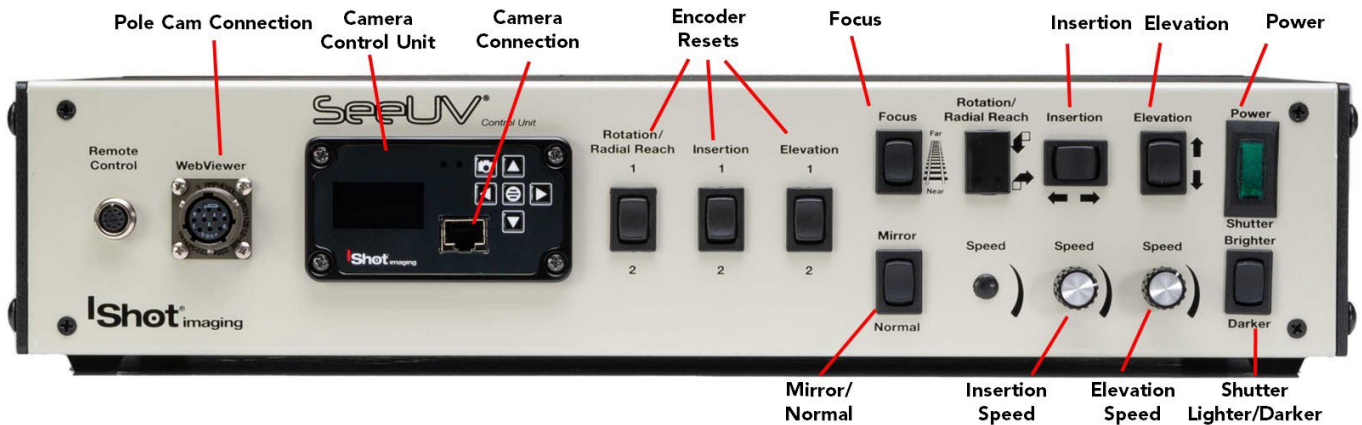

Figure 11 Pole Cam Controller Front
- 8) Adjust settings with front panel toggles switches to optimize performance for intended use per Figure 11
Move the Pole Cam® head with insertion, elevation and radial reach controls to a position suitable for inspection (refer to Figure 11 on page 11). **Update with system images when you get to this point.**